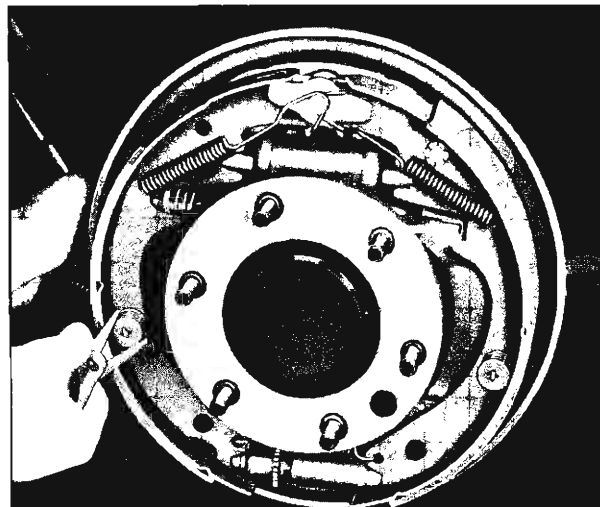

Fig. 16—Removing Hold Down Springs and Pins
5. Remove brake shoe hold down pins and springs using a pair of needle nosed pliers (fig. 16).